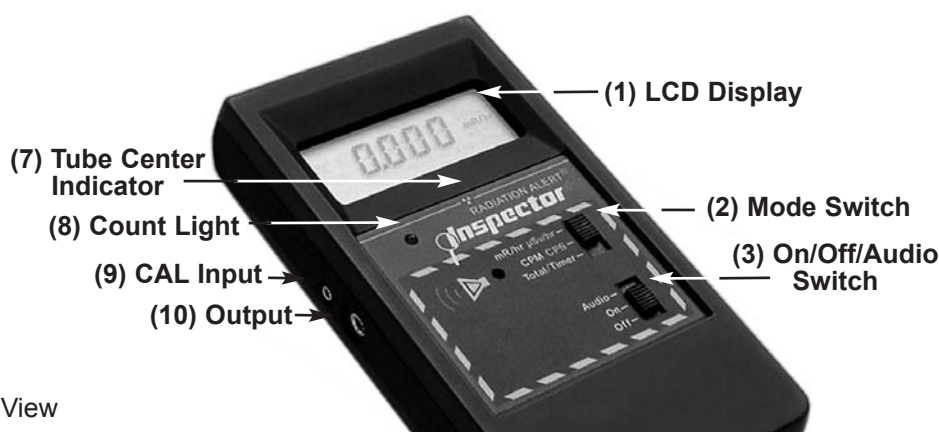

Figure 1 Front View
Mode Switch (Figure 1(2))
Off/On/Audio Switch (Figure 1 (3))
The Inspector⁺ uses a two-inch Geiger tube, commonly called a “pancake tube.” On the back of the Inspector⁺, the screen is called the window. See Figure 4. It allows alpha and low-energy beta and gamma radiation, which cannot get through the plastic case, to penetrate the mica surface of the tube. The small **radiation symbol (Figure 1 (7))** on the front label indicates the center of the Geiger tube.
The **Cal Input (Figure 1 (9))** port is used for calibrating electronically using a pulse generator. For details, see “Calibrating Electronically” in Chapter 5.
The **Output (Figure 1 (10))** port below the Cal Input jack allows you to interface the Inspector⁺ to a computer, data logger, or other device. For details, see “Interfacing to an External Device” in Chapter 3.